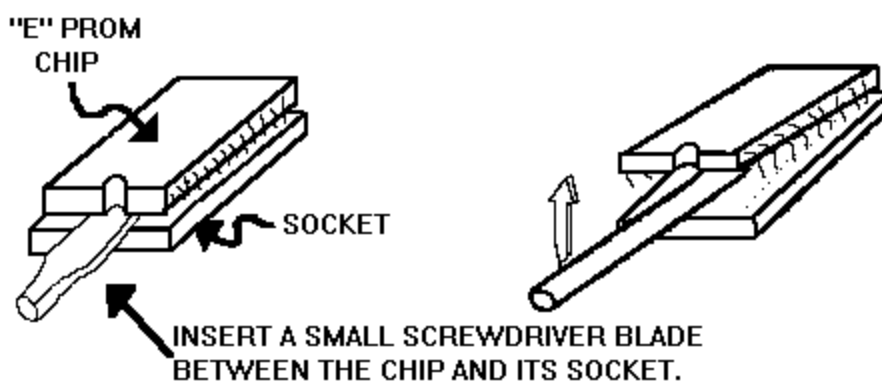

Figure 4
- Gently pry up on the chip a little at a time, move the screwdriver forward and gently pry up more until the blade tip reaches the other end of the chip. While doing this, try not to tip the chip front to rear by more than about 15 deg. Now twist and tip the screwdriver to loosen the chip in its socket. Remove the screwdriver and gently lift the EPROM from its socket and set it aside. See Fig. 4.